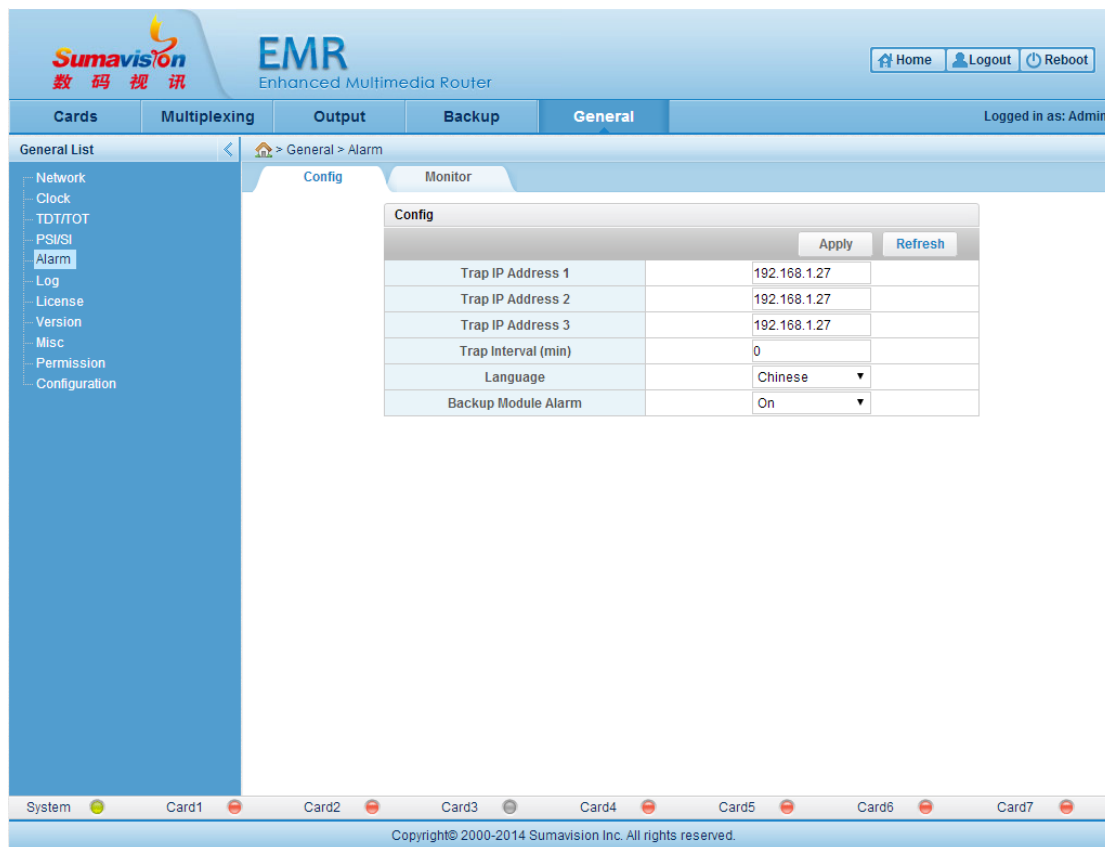

Fig. 5-7 WEB Management Alarm Configuration
- Alarm: this page is used for inquiring EMR and warning information of each daughter card. It can set the warning IP, warning interval, language and the backup module warning switch. Click “Apply” to complete the setting, as shown in Fig. 5-7 WEB Management Alarm Configuration.